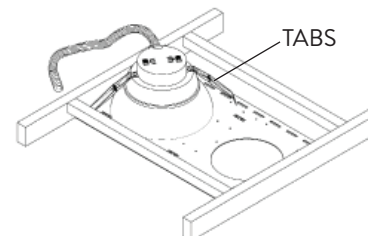

FIG. 10
- 4 Press the FDLA Fixture up against the Stud/Joist Mount and release the retention Tabs to secure the Fixture to the ceiling (Fig. 10).